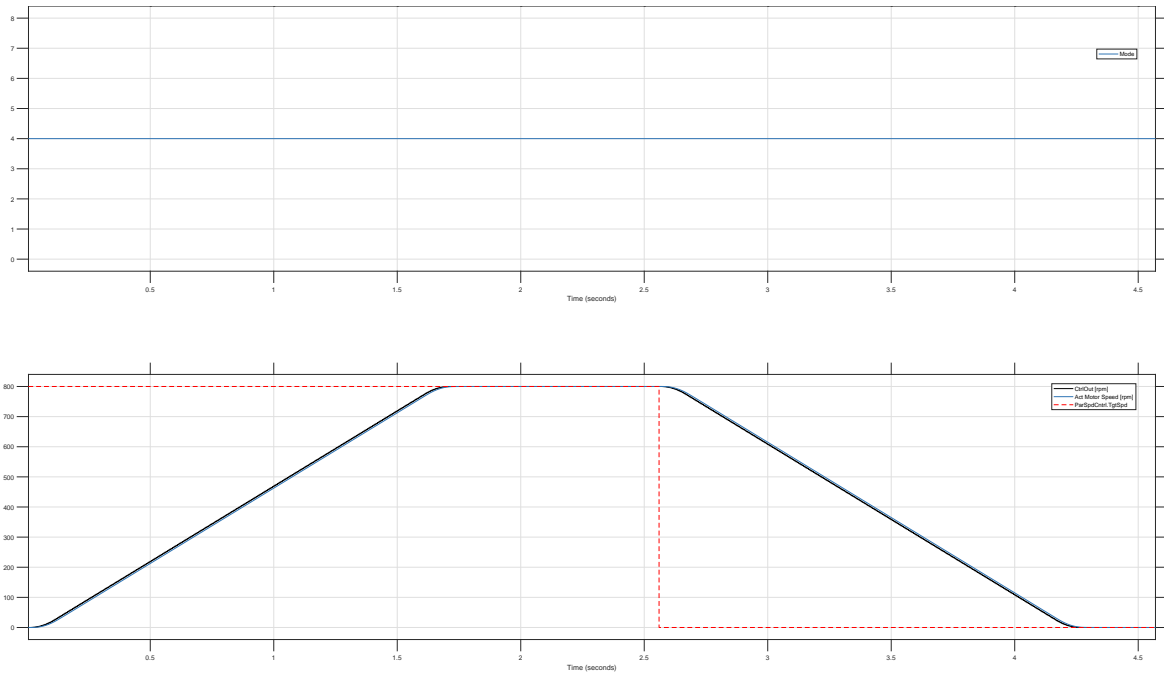

Figure 17: Frequency Drive with optimal set of controller parameters.
5. Optimal set of controller parameters in figure 17: The lag error between set trajectory (black line) and motor actual speed (the blue line) is negligibly small, there is no over shoot and no oscillation. steady- state accuracy is very high.